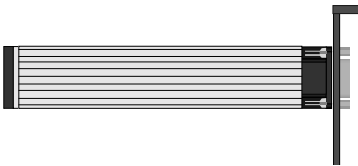

Figure 1-3 COM2 Cable (Optional)
- Optional 9-pin serial port "COM2 Cable port" (Figure 1-3) (**for Intel 815E only**)